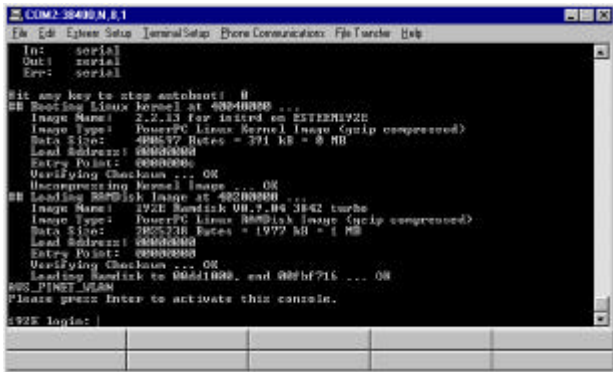

Figure 5: Boot Prompt Example
6. Press the Enter key and you will be at the Configuration Menu login prompt (192E login:). See Figure 5 for an example of this prompt.